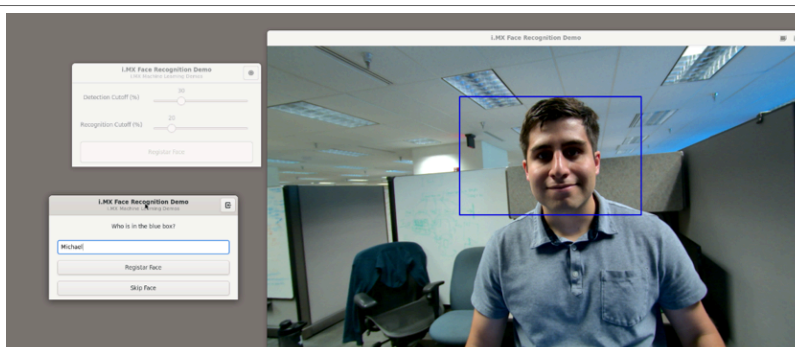

Figure 16. Face recognition for a registered face
3. For all faces in the frame, a window prompt appears, as shown in Figure 16. Type the name of the face that appears in the blue box in the camera view. When done, click the **Register Face** button. If a face must not be registered, click the **Skip Face** button.